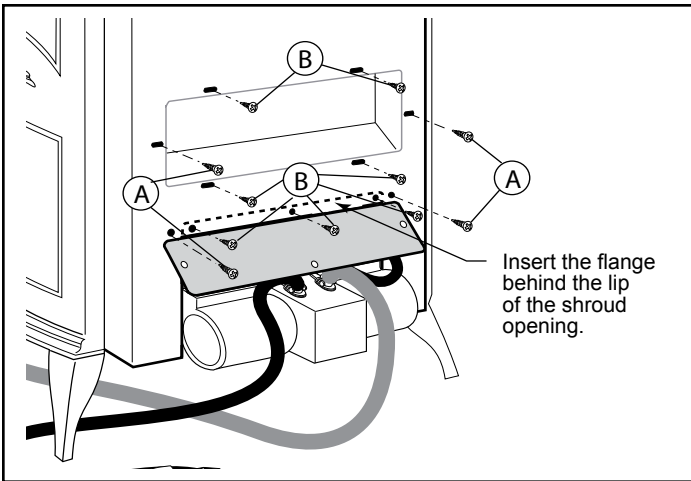

Figure 58 - Reattach the cover plate and secure the rear shroud to the firebox draft hood assembly.
6. Use three of the #10 x 1/2" sheet metal screws to reattach the rear shroud cover plate as shown in Figure 58. Finish securing the shroud to the firebox draft hood assembly using first four #10 x 1" sheet metal screws (A) and then six #10 x 1/2" sheet metal screws (B) and at the locations shown in Figure 58. **NOTE:** Failure to follow Step 6 in detail could result in poor air flow performance.